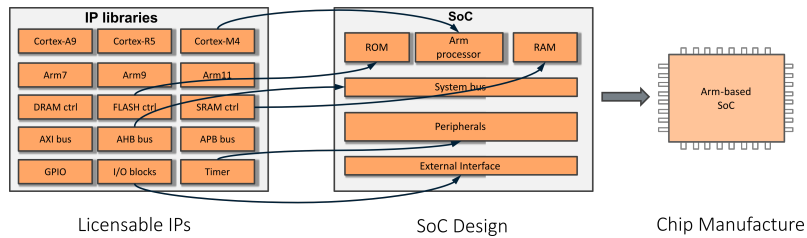

Figure 1.12: ARM-based SoC designing.
An Arm-based SoC is designed by selecting elements from Arm Intellectual Property (IP) libraries and/or other third party IP vendors. Different components such as core, RAM, ROM, peripherals, etc. are selected from licensable IP. These IP components are combined with company-owned or additional third-party IP to create a SoC as shown in Figure 1.12 .